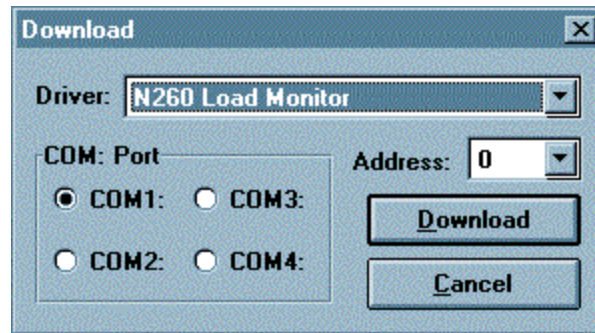

Figure 6: Download window.
3. The Download window will appear (See Fig. 6).
4. Choose the Com: Port connected to your monitor(s). (See Fig. 6).
(Note: Com 1 is set as default. See Fig. 6.)